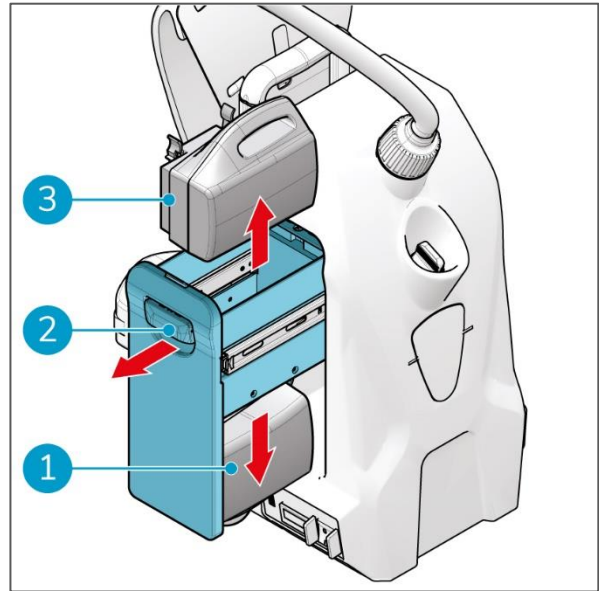

Figure 24
1. Open the battery holder (Figure 24, pos 2) at the side of the i-cover® 2.5.
2. Remove the blue coded battery from the blue battery slot at the top (Figure 24, pos 3).
3. Remove the gray coded battery (option) from the gray battery slot at the bottom (Figure 24, pos 1).
4. Close the battery holder (Figure 24, pos 2).